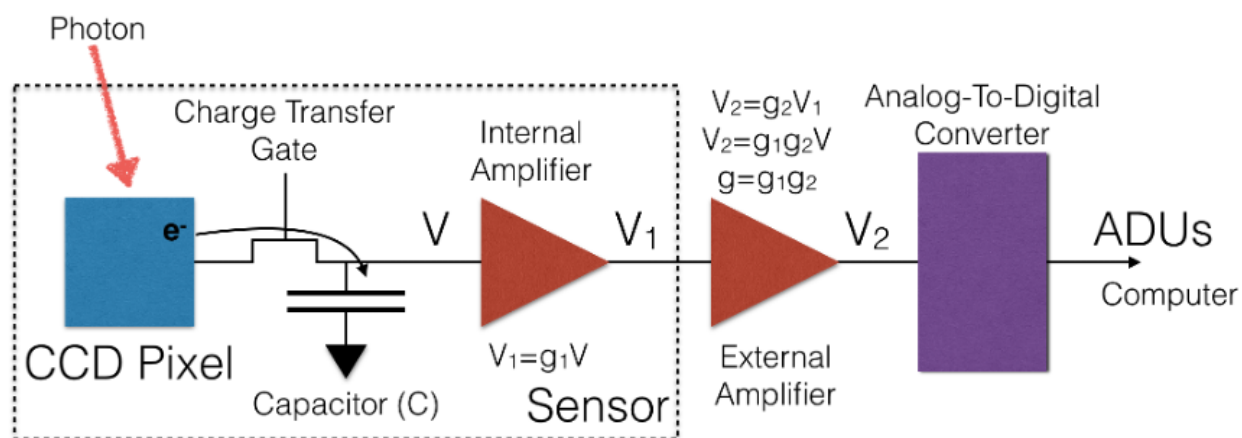

Figure 6: Analog signal chain from a CCD sensor.
The digital signal is recorded in units known as analog to digital units (ADU) after being amplified by both the sensor and the camera electronics as shown in Figure 6. Assuming that the measuring circuits are linear there is a linear relationship between ADU and the number of photoelectrons collected; this constant of proportionality is known as the **gain**. The entire CCD
- **Gain** of the ADC can be commanded and is variable from -11 to +24 dB for the CCD and 0 to 12 dB for the CMOS. This adjusts the external amplifier in the signal chain (Figure 6), and therefore the sensitivity and also the dynamic range of the camera.